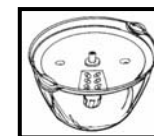

Fig. 10
5. Using the finger holes in the blade holder, fit it over the spindle and place spindle in processor bowl. (Fig. 10)